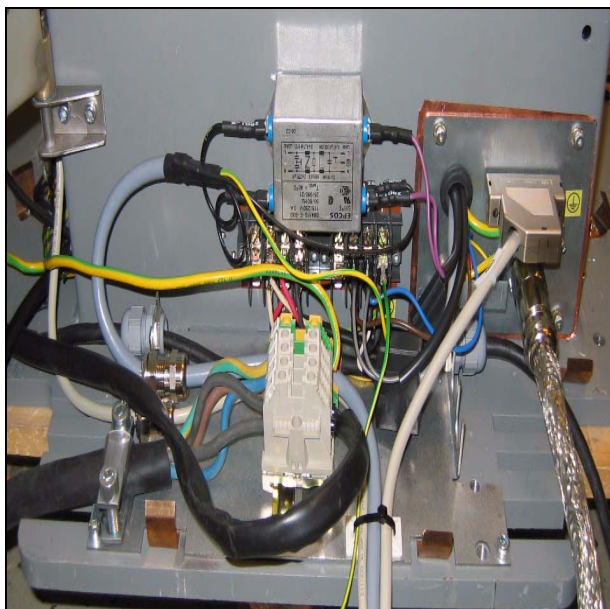

Fig. 5
- Lay the BC unit on the floor behind the MAMMOMAT. Attach the ground cable from the BC unit to the connector on the stand according to Fig. 5.